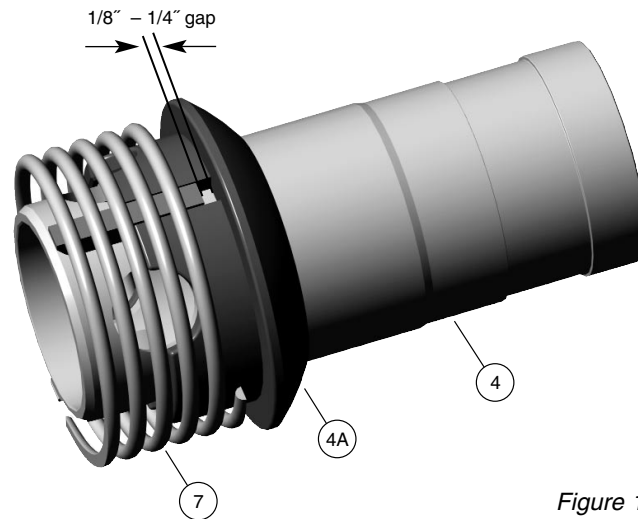

Figure 1
Make sure there is 1/8" to 1/4" gap between the heel of the key in the nipple and the bottom of the keyway in the nipple body (Please see Figure 1). This inspection is done through the inlet connection. The gap should be visible by placing a screw driver between the spring (7) and the nipple body and twisting it so that the bottom of the key and keyway become visible.